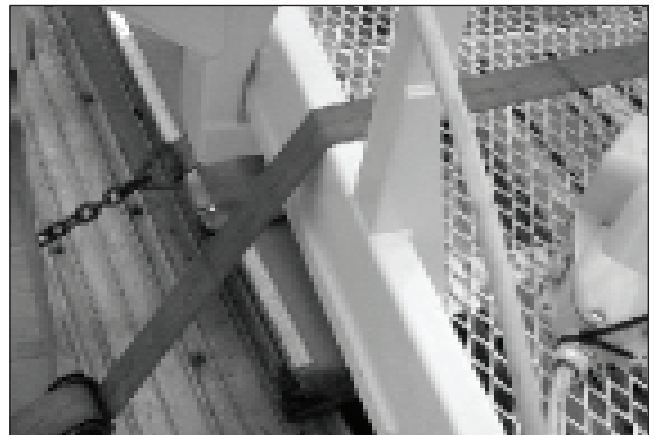

Figure 9.6 – Platform
11. Use a nylon strap to securely fasten the platform against the wood block. On steel platforms, thread the strap over the toeboard as shown in Figure 9.6.